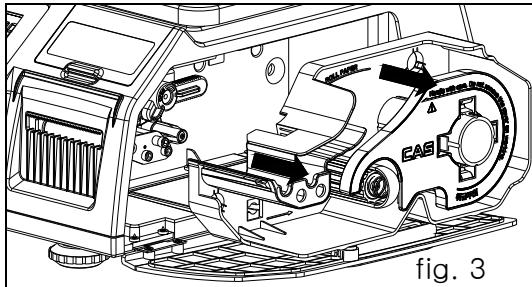

fig. 3
- 3) Remove cartridge as fig. 3.